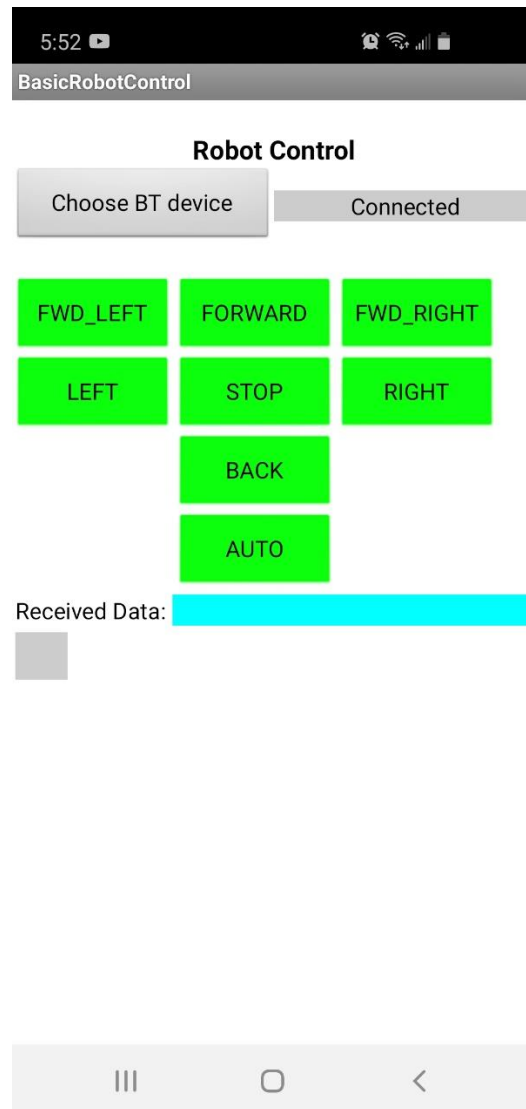

Figure 3-3. Robot Bluetooth Connected.
- The App should return to the main screen with the top right message now saying “Connected” in a gray field; see figure 3-3.